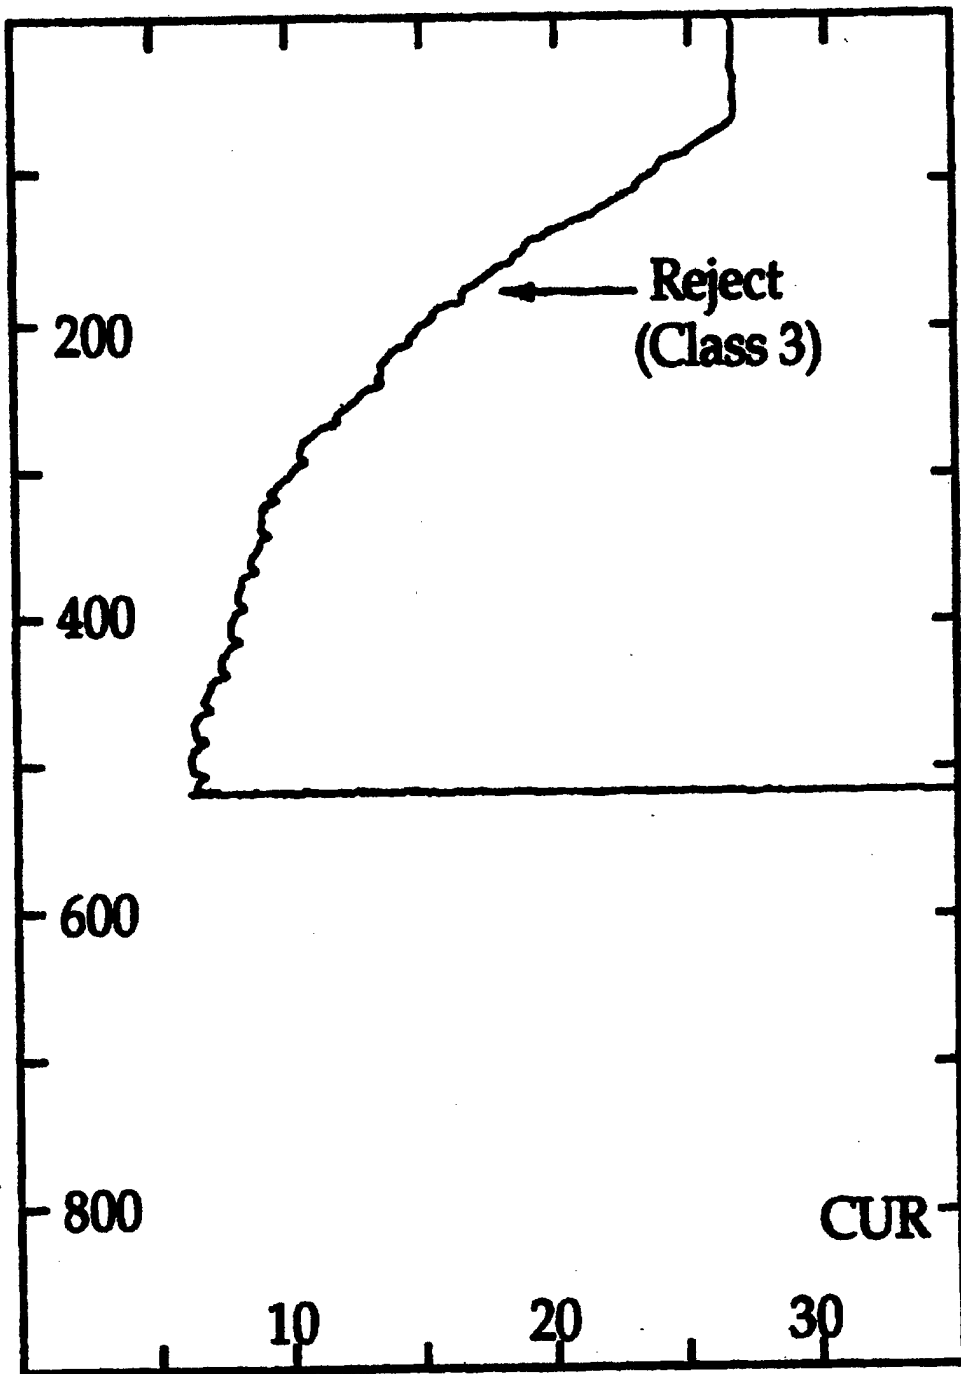

Figure 8c. Cusping Error Reject (CUR)
- Fig. 8c:** The CUR flag is used if large amplitude (>0.2 C) periodic cusping is embedded in a profile.